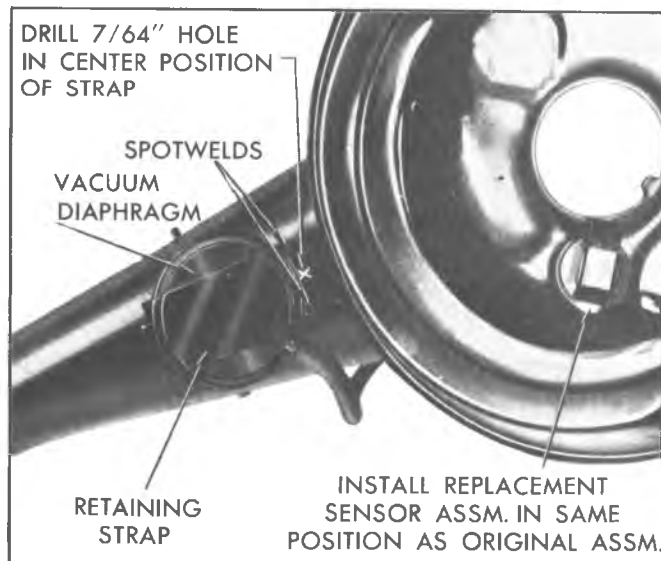

Fig. 77—Vacuum Diaphragm Replacement
1. Drill 7/64" hole in snorkel tube at center of vacuum motor retaining strap (fig. 77).